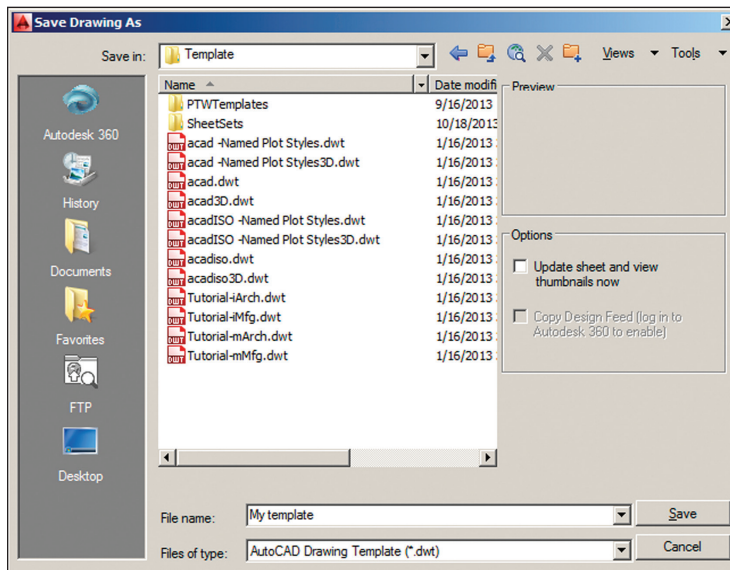

FIGURE 14.7 Saving a new drawing template
- Click the Save As button in the Quick Access toolbar. Change the Files Of Type drop-down in the Save Drawing As dialog box that appears to AutoCAD Drawing Template (*.dwt). Type My template in the File Name text box (see Figure 14.7). Click Save.